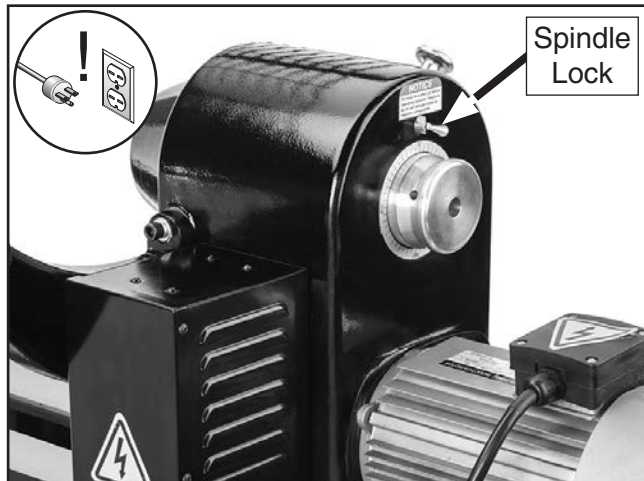

Figure 35. Locking spindle to install faceplate.
2. Rotate spindle lock right to prevent spindle from turning while you tighten faceplate, as shown in **Figure 35**.